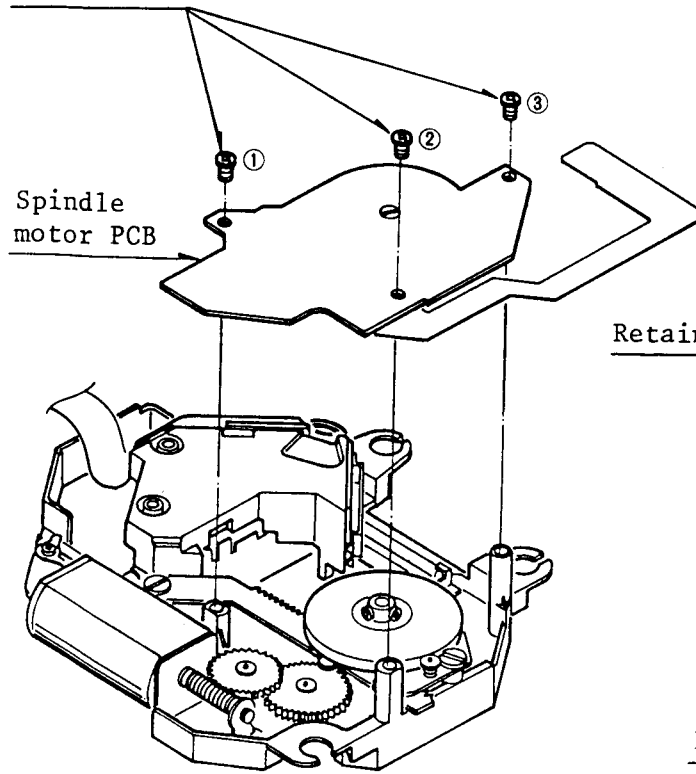

Fig. 3-2
- ② Remove the spindle motor by unscrewing three fastening screws as shown in Fig. 3-2.